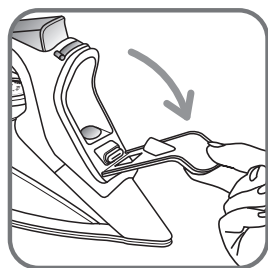
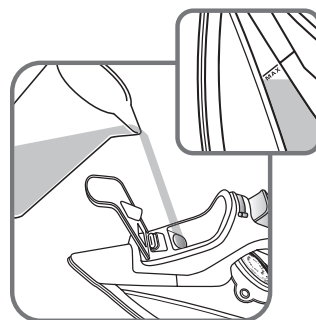

fig.3
fig.4
- Open the filling inlet **fig.3**. Fill in water up to the Max. mark. **fig.4**. Close the filling inlet and return the iron to the horizontal position.